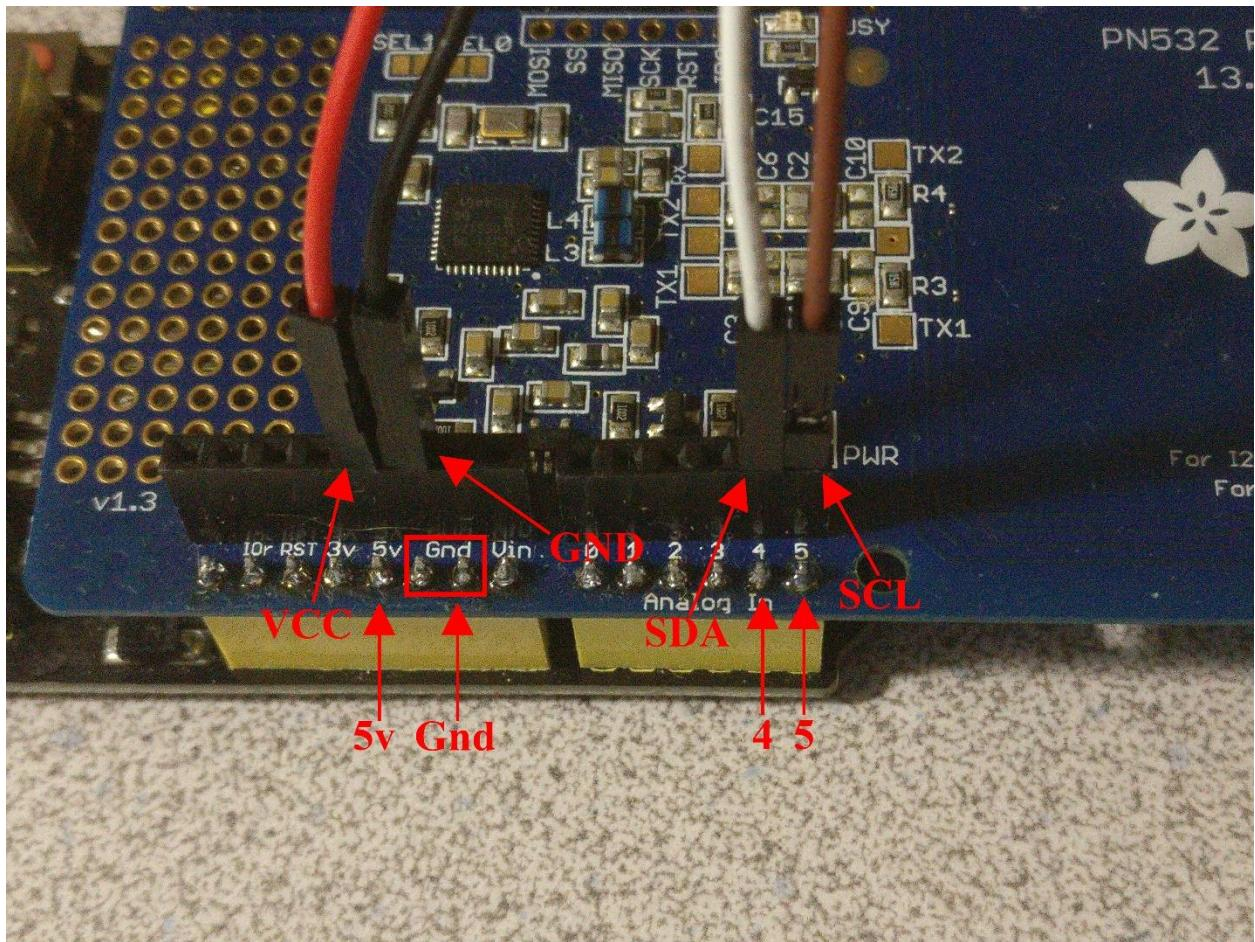

Figure 5-4 – Wiring of LCD backpack into Adafruit PN532 shield
- b. Connect the male end of the 4-wire male-to-female wires as follows. Refer to Figure 5-4 for an example of the completed wiring.